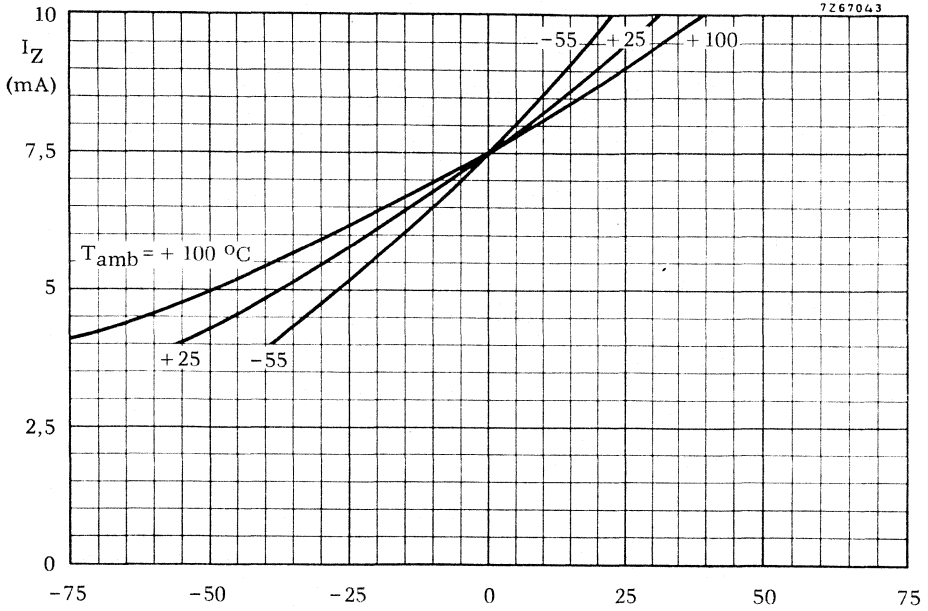

Fig. 8 Max. ΔV_{ref} (mV) (referenced to $I_Z = 7,5$ mA).
* For accuracy of I_Z see Figs. 8 and 9.